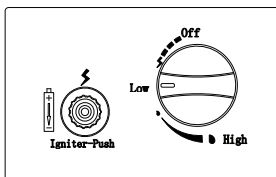

Figure 2
5. Press the control knob, turn counterclockwise to the "LOW" position, press and hold. When the burner lights, release the electronic igniter button. (see figure 2)